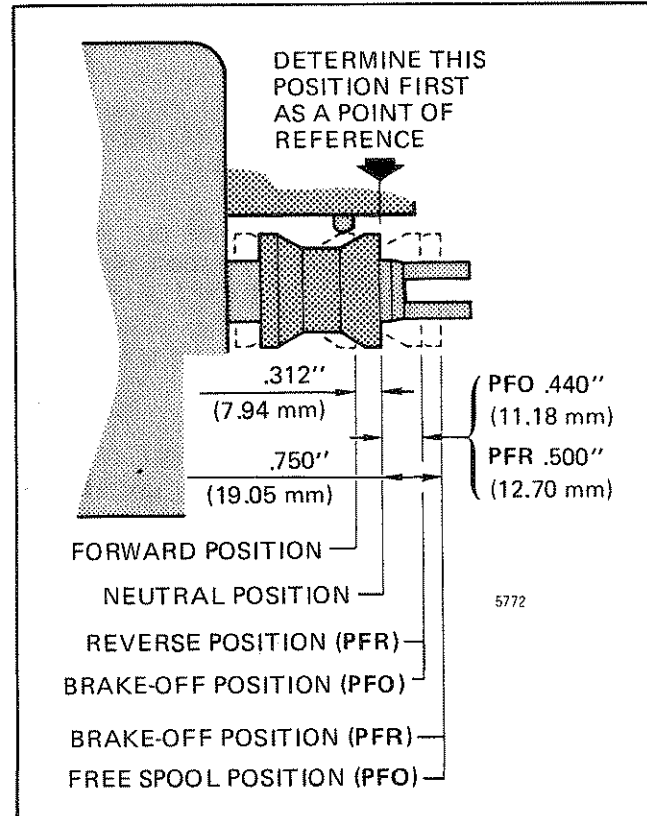

FIGURE 4-4. CONTROL VALVE SPOOL TRAVEL CHECK
4-36. CONTROL VALVE SPOOL TRAVEL CHECK. (See Figure 4-4).
4-37. It may be necessary to check spool travel when pressure checks do not meet specification. Figure 4-4 shows the correct travel for the various spool positions and the related hydraulic pressures. The control valve spool is self-positioned to NEUTRAL. The three other travel positions are determined by spool assembly internal stops and detent. If spool travel is found to be out of adjustment, the spool assembly or complete control valve assembly should be replaced. Ensure that the spool cap is installed securely. Perform the spool travel check as follows:
2. Using a small ruler, determine the Neutral position of spool as shown in Figure 4-4. In this position the spool end should protrude approximately 15/16-inch (23.8 mm) from the valve body.
3. Move spool into body until it bottoms. This position is FORWARD and should be at 5/16-inch (7.9 mm) travel from NEUTRAL as shown in Figure 4-4.
4. Move spool out of body until the first stop is felt. On PFR winches this position is REVERSE and BRAKE INCHING on PFO winches. This stop should be at 1/2-inch (12.7 mm) travel from NEUTRAL as shown in Figure 4-4.
5. Move spool out of body, past the stop felt in step 4, into the detented position. On PFR winches this position is BRAKE-OFF and FREE-SPOOL on PFO winches. This stop should be at 3/4-inch (19.1 mm) travel from NEUTRAL as shown in Figure 4-4.